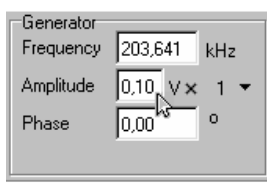
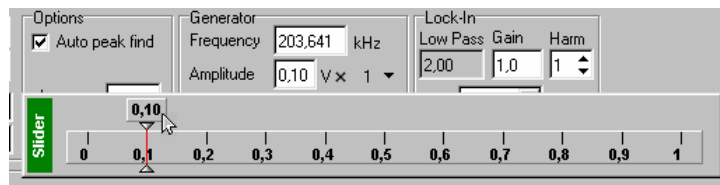

Fig. 4-15
Fig. 4-16
1. Open a slider of **Amplitude** parameter by means of double clicking in the entry box for the given parameter (Fig. 4-15, Fig. 4-16);